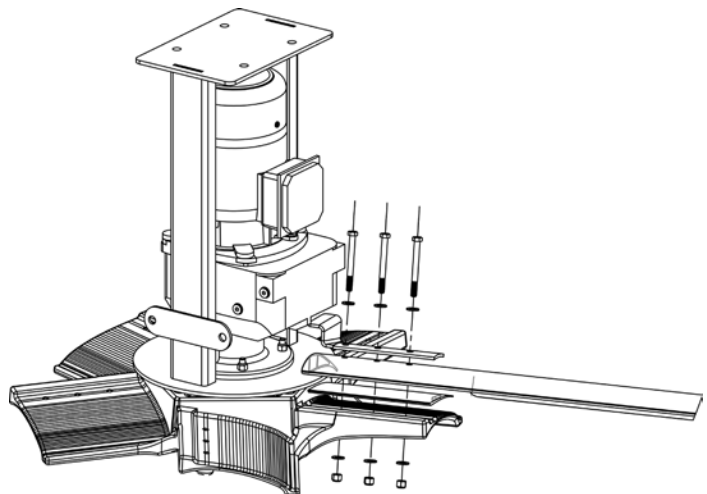

FIG.18
1. Clamp a blade between blade topper and blade shim on each spoke of hub using 3/8" bolts, washers and nylocks (Fig.18).